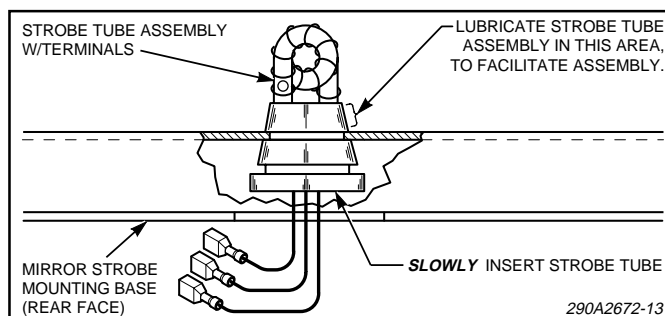

Figure 5.
e. See figure 5. SLOWLY insert the new strobe tube in the mounting bar until it is properly seated in the top slot of the strobe tube. If the strobe tube is difficult to insert, remove it and apply a high